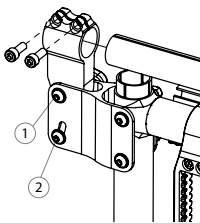

Fig. 12
- Loosen screw (1) (Fig. 12) and remove screw (2) from the levelling device.
- Reinstall screw (2) and tighten both screws to fit snugly.